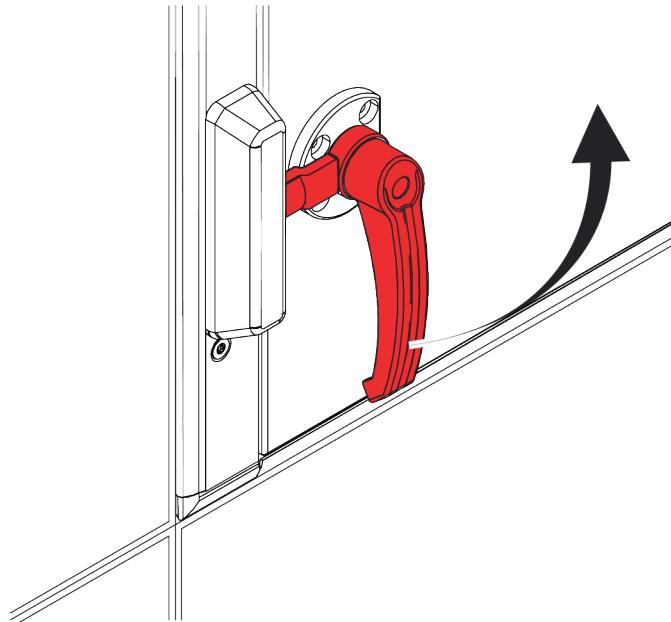

Fig. 14: Opening the door lock
- ▶ Turn the door handle 90° anticlockwise (Fig. 14).